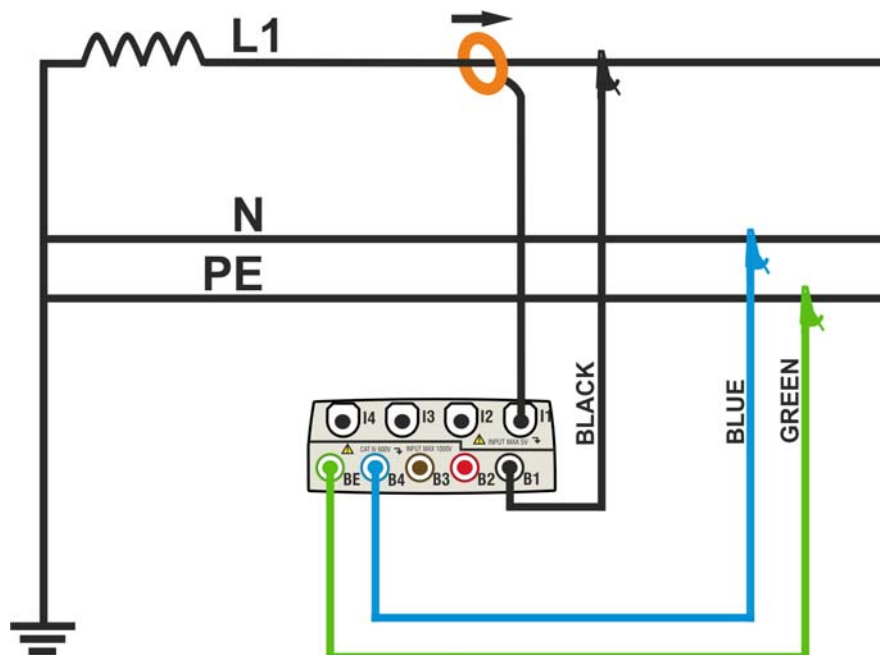

Fig. 114: Meter connection in a Single phase system – ENG type
2. Connect voltage test leads on Phase, Neutral and Ground cables considering the colours as shown in Fig. 114).
3. Connect the transducer current clamp on L1 Phase cable as shown in Fig. 114) respecting the clamp's arrow direction indicating the current standard sequence from generator to load. **On Real Time Values' section screens always verify the positive value of Active Power and the power factor relative to load which should be normally inductive** before starting a recording. Reverse the clamp by 180 degrees on cables in case of negative readings.